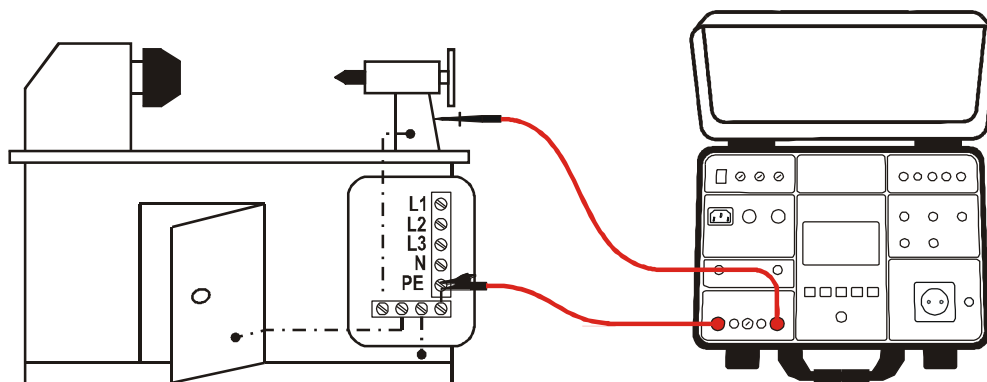

Fig. 27 : Connection of test leads in RPE-2WIRE function
9. Connect the test leads according to the below Fig. 27